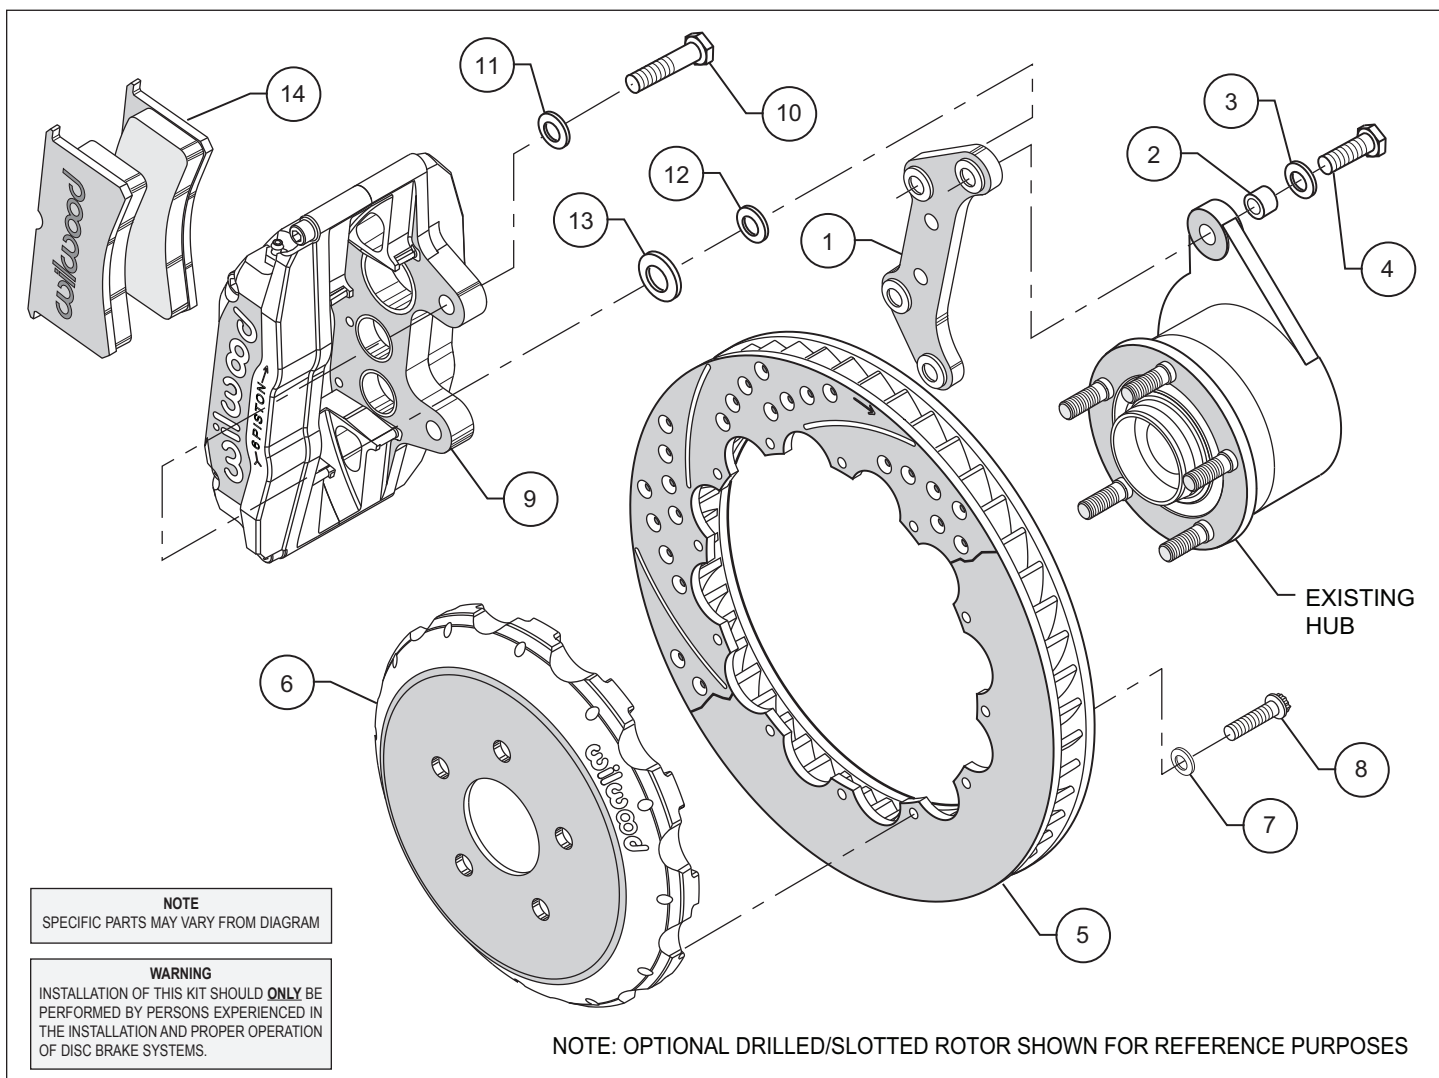

Figure 1. Typical Installation Configuration, Left Hand Application Shown
- Insert one sleeve (2) each into the holes on the top and bottom of the spindle "ears" where the OEM caliper bracket was removed. Apply red *Loctite*® 271 to the caliper mounting bracket bolt threads (4) before installation of the caliper mounting bracket (1). Install the bracket with the flanged heads of the clinch nuts facing outboard, as shown in Figure 1. Slide bolt (4) through washer (3) and into the previously installed sleeve (2), from the backside of the hub. Finger tighten. Repeat for the lower mounting holes. Torque bolts to 75 ft-lb.
•**NOTE:** Please reference the caution statement at the beginning of the assembly instructions. With the bleed screws pointing up, mount the caliper (9) onto the caliper mounting bracket (1) using bolts (10) and washers (11), as shown in Figure 1. Insert spacer (13) between the caliper ears and the bracket, before tightening the bolts. View the rotor (5) through the top of the caliper. The rotor should be aligned in the center of the caliper. If not, loosen the two bolts and adjust the caliper by using 0.030 inch thick shims (12), placed between the spacer (13) and the bracket. Finger tighten and recheck alignment. Always use the same amount of shims on both the top and bottom caliper mounting bolts. Loosen the two bolts and apply red *Loctite*® 271 to bolt threads and torque to 75 ft-lb.
•Remove the caliper bridge bolt and install the disc brake pads (14) then reinstall the caliper bridge bolt. Repeat this procedure for the other wheel.